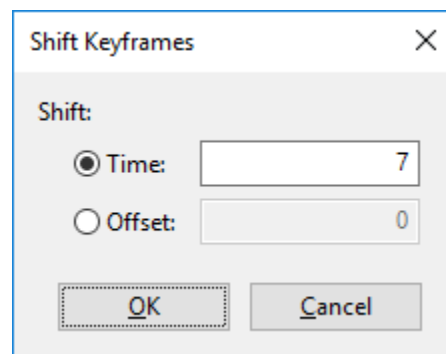

Figure 44. Shift Keyframes dialog
2. Right-click the keyframes and select **Shift Times**. This will open the **Shift Keyframes** dialog as shown in Figure 44.